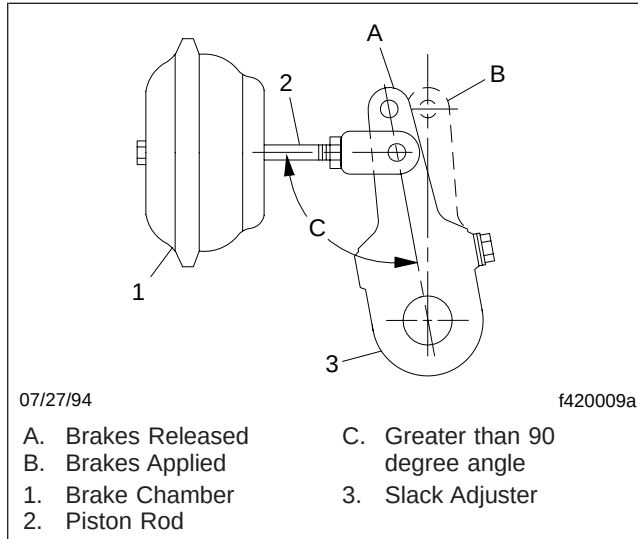

Fig. 2, Angle Between Piston Rod and Slack Adjuster
1. With the slack adjuster properly adjusted, check the angle formed by the centerline of the piston rod and slack adjuster. This angle should be greater than 90 degrees in the released position and approach 90 degrees in the applied position. See Fig. 2.